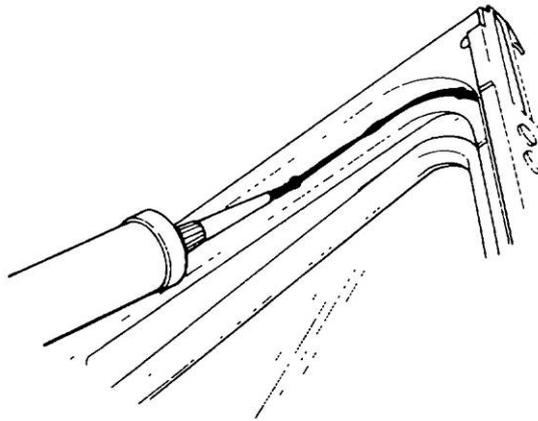

Figure 161 Applying Sealant to the Windscreen Frame
- f. Apply a thin bead of suitable sealant to the front face of the windscreen frame flange (Figure 161).